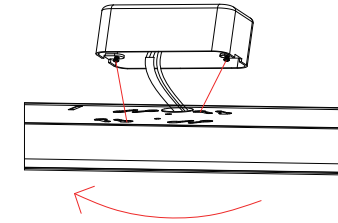

Figure 4
- Turn housing clockwise to lock in place and tighten screws to ensure the fixture is secure and will not move. (Figure 4)